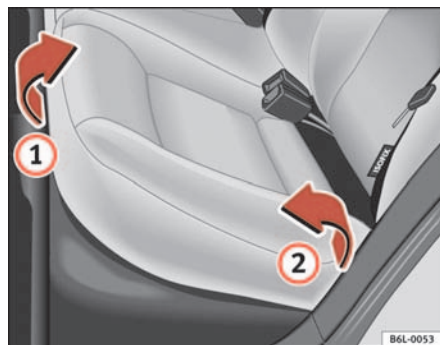
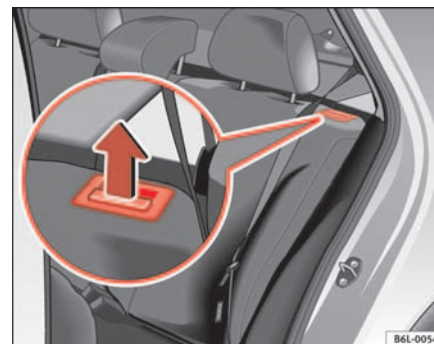

Fig. 76 Folding up the rear seat cushion
Fig. 77 Button for unlocking the rear backrest
- Pull the front edge of the seat cushion ⇒ fig. 76 ① upwards in the direction of the arrow.
- Lift the cushion ② forwards in the direction of the arrow.
- Pull the release button ⇒ fig. 77 in the direction of the arrow and fold the backrest forwards.